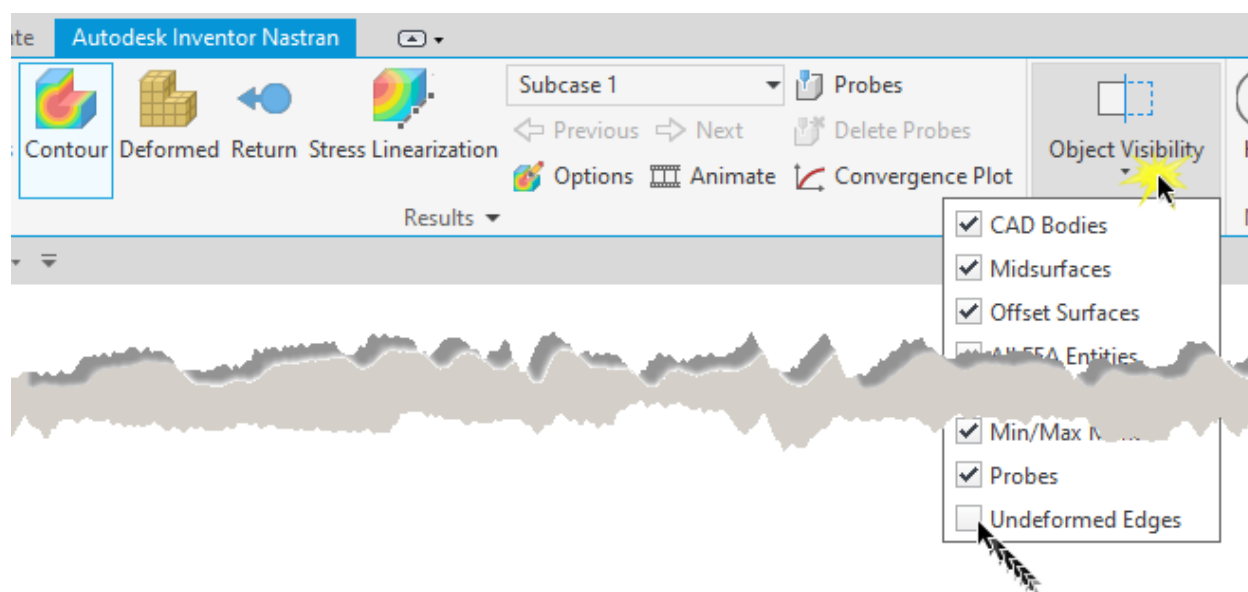

Figure 86 - Object Visibility will turn the undeformed edges off for the current analysis.
- To turn off for the current model, use the ribbon to uncheck “Display > Object Visibility > Undeformed Edges”. See Figure 86.